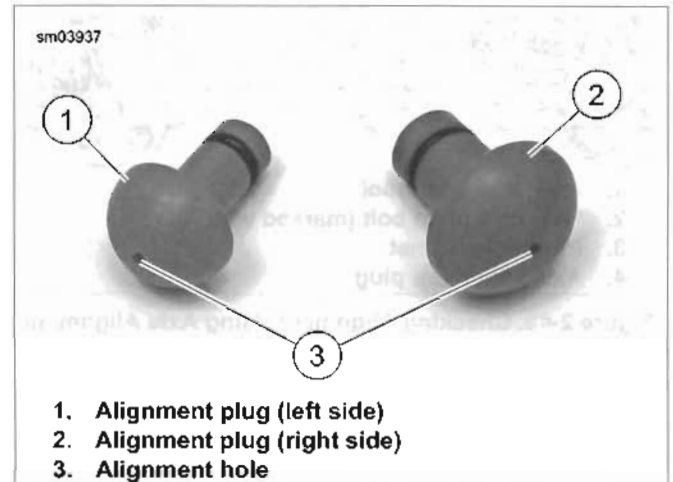

Figure 2-37. Axle Alignment Plugs
- See Figure 2-37. Insert alignment plugs (1, 2) from the AXLE ALIGNMENT PLUGS (Part No. HD-48856-A) into left and right ends of rear axle. Turn handle until plug is firmly held in the axle.